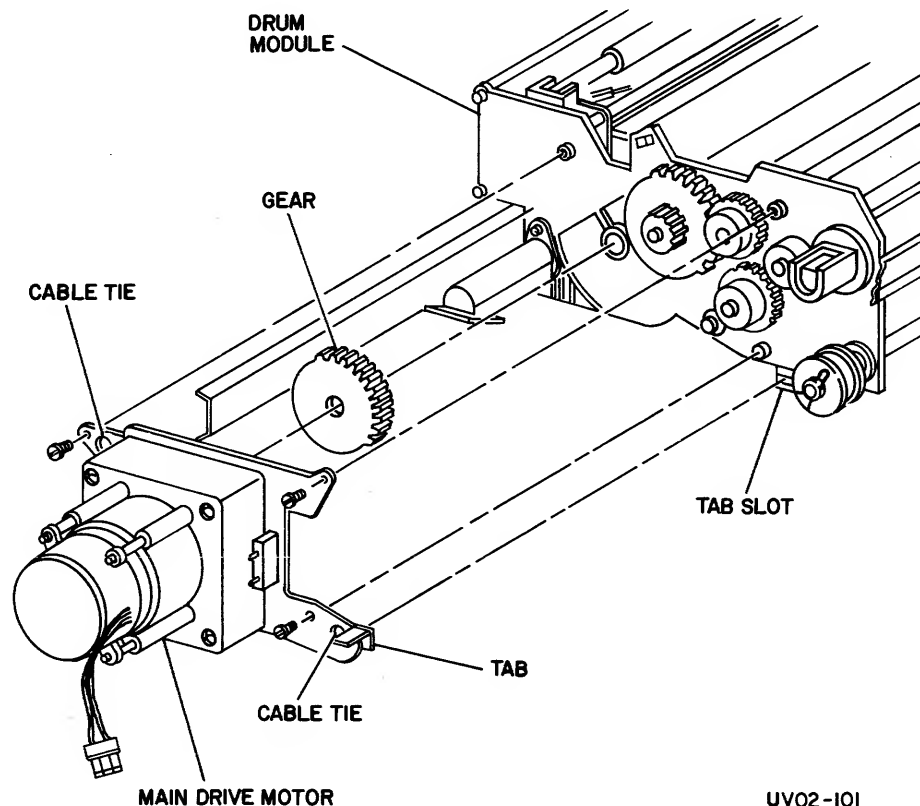

Figure 3-10. Main Drive Motor
4. REMOVE DRIVE MOTOR (Figure 3-10).